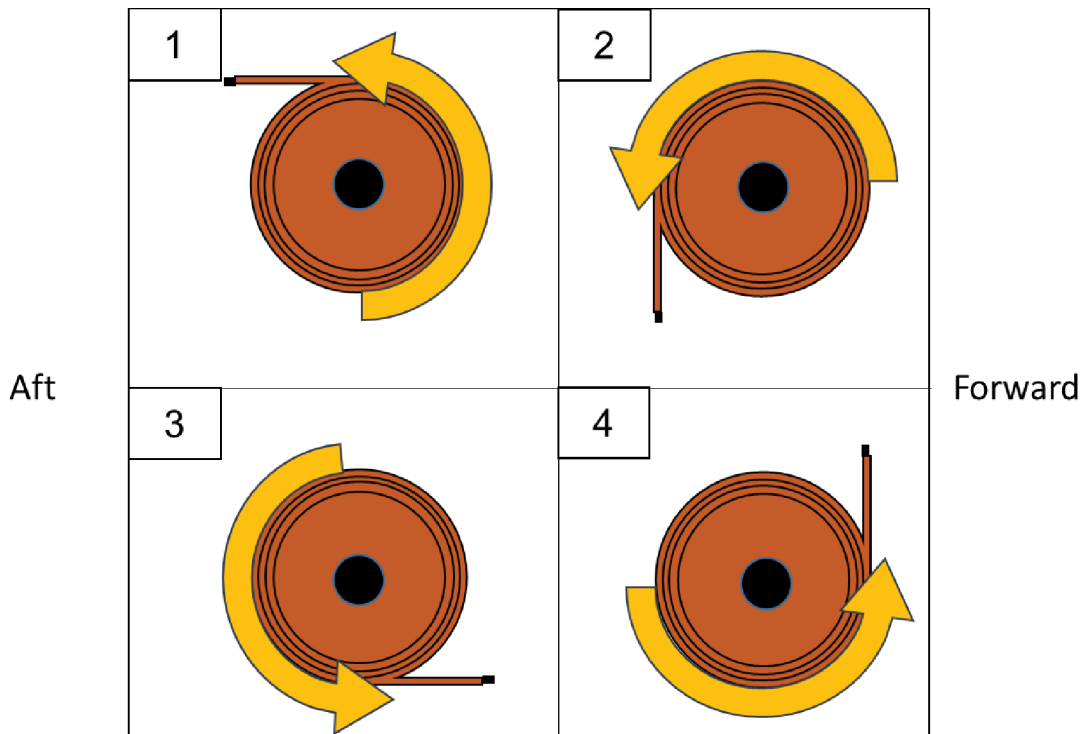

Fig.24
- B. Grip and rotate the roller and canvas towards you and towards crossbars (**Fig.23A**). You will begin to feel the tension of the roller after about 3 to 4 full rotations (**Fig.24**). Continue as needed until canvas is taut.